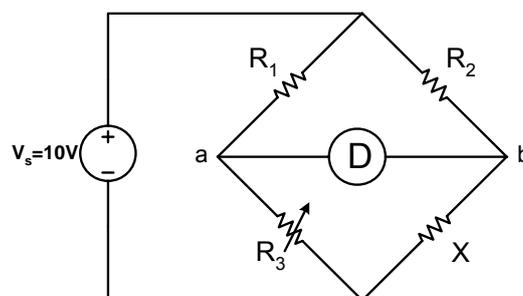

Figure 4: Simplified Wheatstone Bridge Circuit
A simplified Wheatstone bridge circuit is shown in Figure 4. In the figure,  $R_1$ ,  $R_2$  and  $R_3$  are precision, adjustable resistances and  $X$  is the unknown resistance. You are required to measure the unknown resistance  $X$ .
1. Connect the power supply and resistances as shown in figure 4.